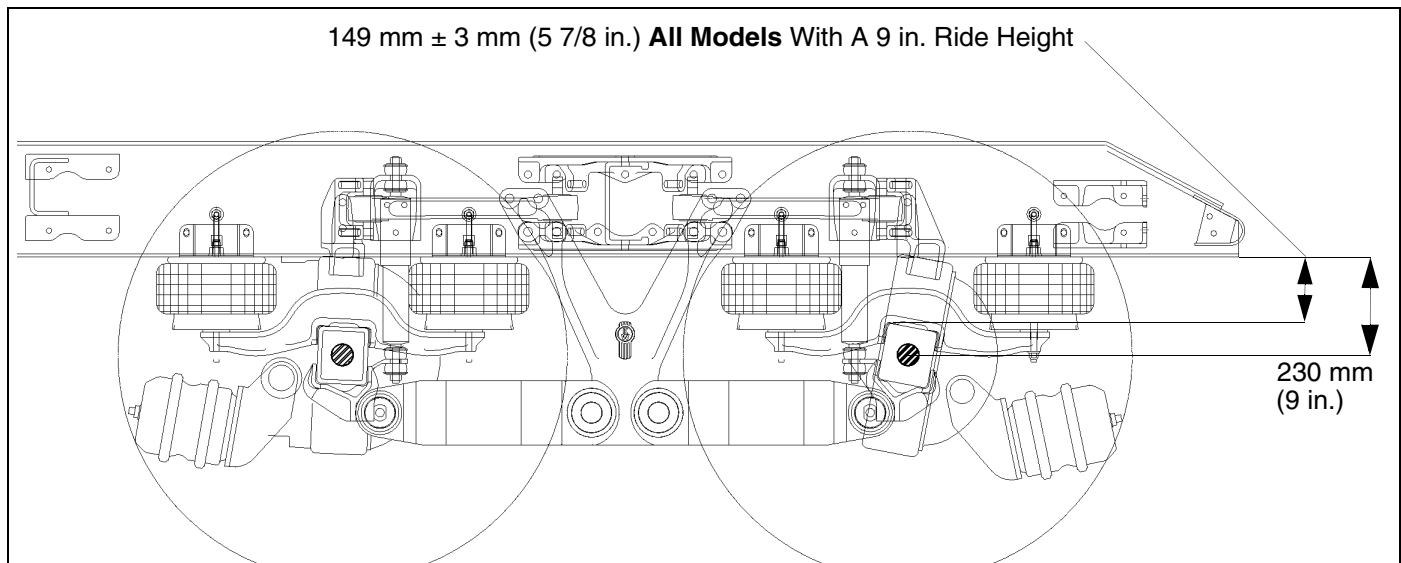

Figure 15-7
- AG400 With 9 in. Ride Height: 149 mm \pm 3 mm (5-7/8 in. \pm 1/8 in.) See Figure 15-7.